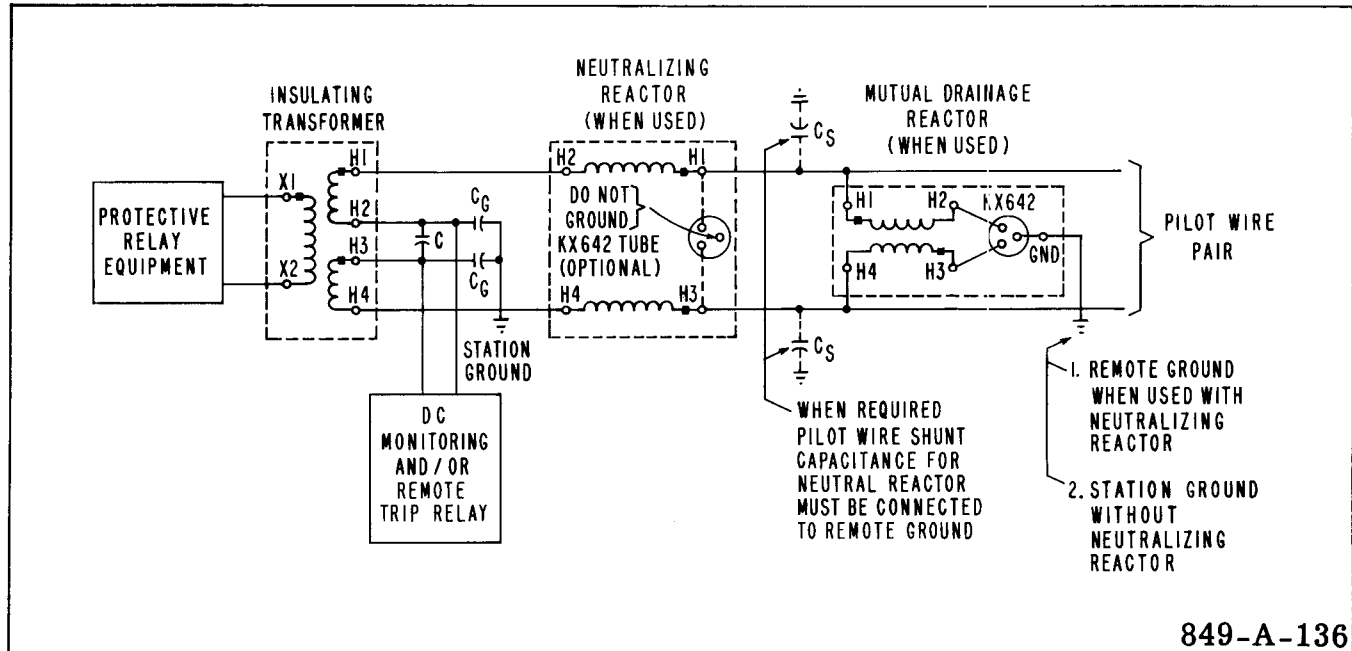

Fig. 1. External Schematic for Pilot Wire and Protective Equipment for HCB and HCB-1 Relaying.
The insulation and protection equipment shown in Fig. 1. is used with the HCB or HCB-1 pilot wire relay. A complete installation for one terminal of a line consists of an insulating transformer, neutralizing reactor, capacitors, mutual drainage reactors and neutralizing reactor KX642 tube.
The AC bypass capacitor (C) is required only when DC monitoring and/or remote trip relays are used. Otherwise connect H2 to H3 on the insulating transformer (refer to Fig. 1.). Use a 10 ufd capacitor for 50/60 HZ applications.